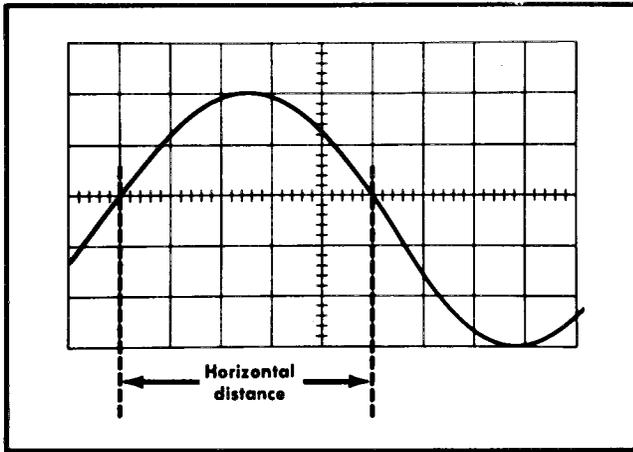

Fig. 2-17. Measuring the time duration between points on a waveform.
5. Set the TIME/DIV switch to the fastest sweep rate that displays less than eight divisions between the time measurement points (see Fig. 2-17). (See the topic entitled Selecting Sweep Rate in this section concerning non-linearity of first and last divisions of display.)
**Example.** Assume that the distance between the time measurement points is 5 divisions (see Fig. 2-17) and the TIME/DIV switch is set to .1 ms with the magnifier off.
**Example.** The frequency of the signal shown in Fig. 2-17 which has a time duration of 0.5 milliseconds is: